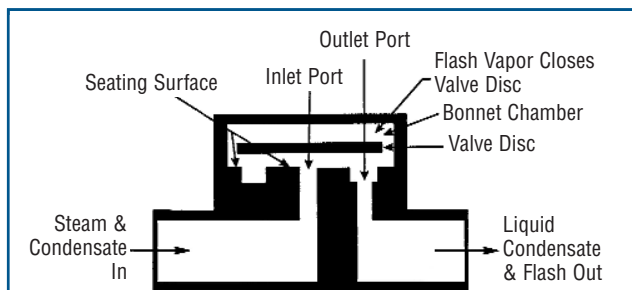

Figure 8. Thermodynamic Disc Steam Trap
**Disc Traps.** Disc traps use the position of a flat disc to control steam and condensate flow. When condensate flows through the trap, the disc is raised thereby causing the trap to open. As steam and air pass through the trap the disc moves downward. The force that causes the disc to move downward is generated by the difference in pressure between the low-velocity steam above the disc and the high-velocity steam that flows through the narrow gap beneath the disc. Disc traps commonly have an intermittent discharge and, when they fail, they normally fail open. The configuration of a disc steam trap is shown in Figure 8. Generally, the air